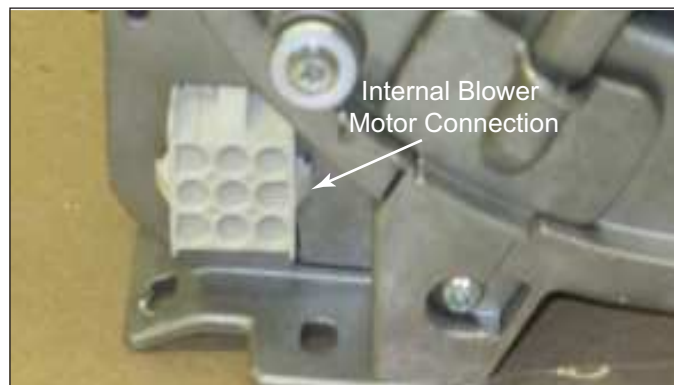

Figure 4-12. Internal Blower Motor Connection
- Disconnect Internal Blower Cable connection from Internal Blower. (See Figure 4-12).